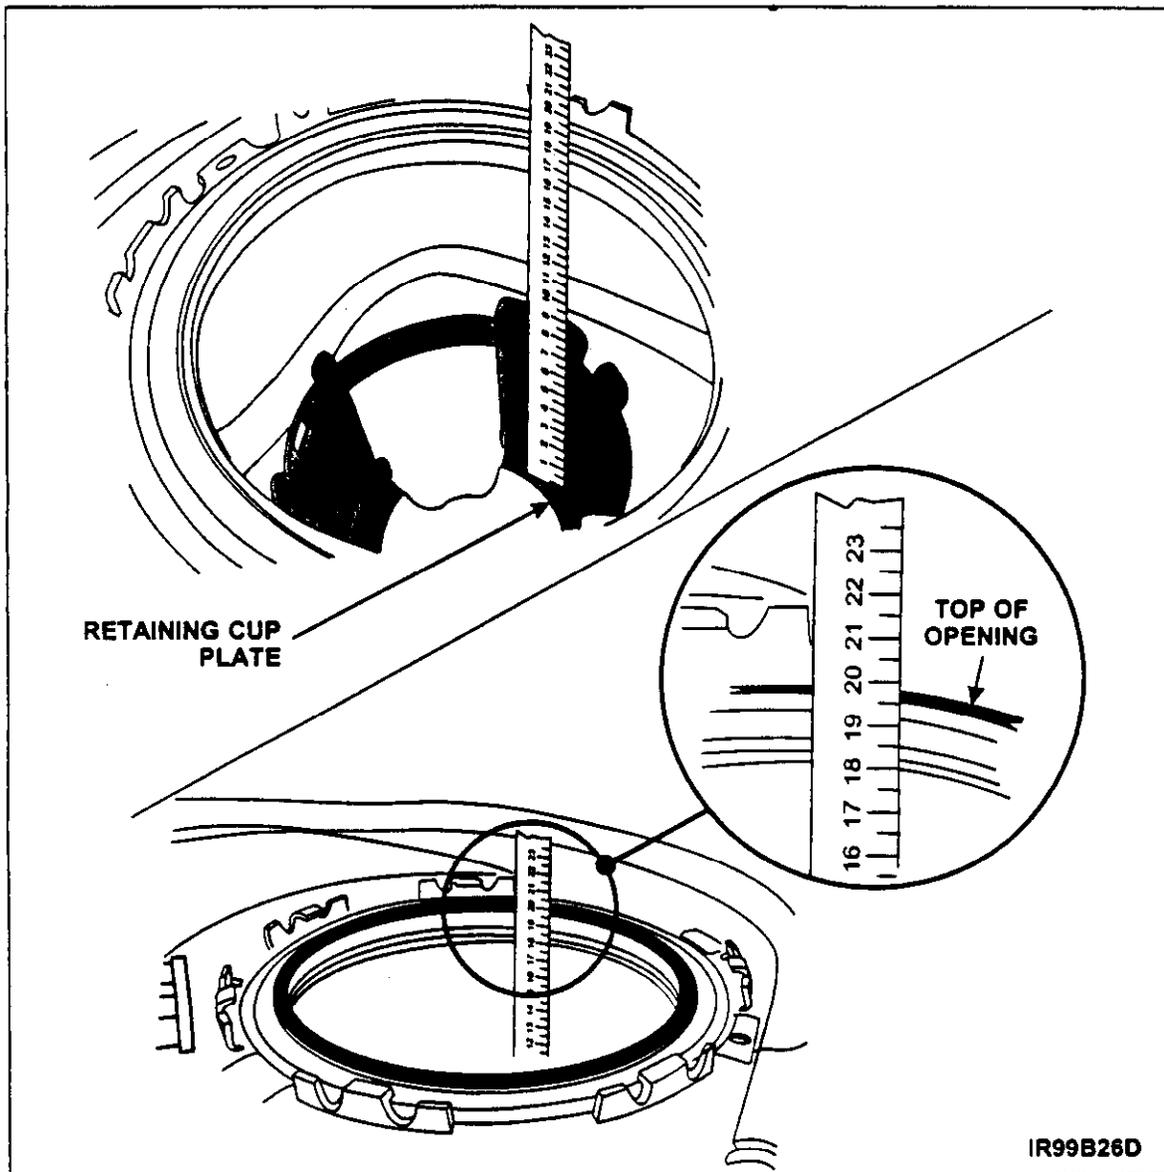

FIGURE 4
1. Measure the depth of the fuel tank between the top of the fuel pump opening and the bottom of the retaining cup plate. See Figure 4.